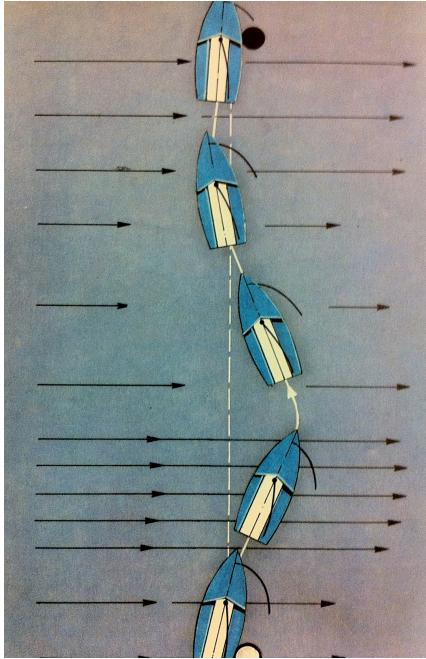
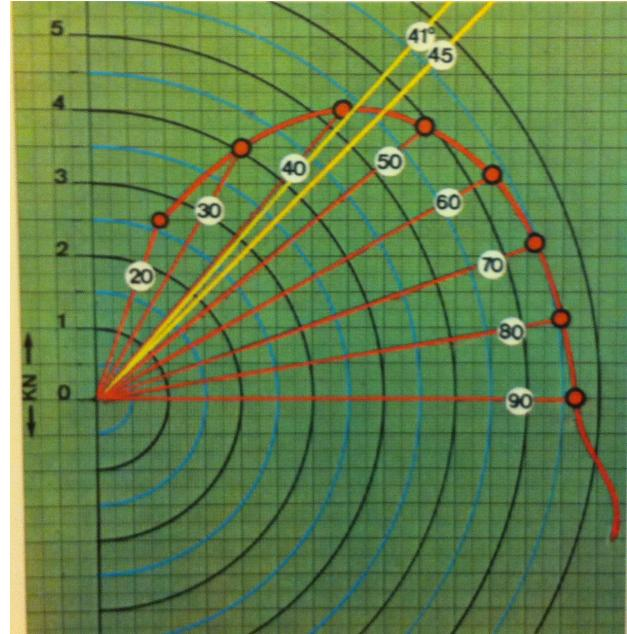

Figure 2
Figure 3
Figure 2 demonstrates how weaving through the gusts and lulls produces the fastest reaching course. The general rule is to bear away from the gusts (turn away from the wind) and to luff in the lulls (overturn into the wind) rather than to stay a straight course on the dotted line. This wind behavior forms a wind contour that can be represented as a wind vector field (Bavier, 1945). **Figure 3** plots boat angle and boat speed on a graph. The wind direction is parallel to the y-axis, and the straight red lines represent the boat's heading. The alternating blue and black semi-circles demonstrate speed. The optimum speed threshold is a heading between 41° and 45° to the true wind (Imhoff & Prange, 1975).
It is important to note, however, that the underlying principles of weaving through gusts and lulls in a broach reach (Figure 2) can be applied to feathering strategies and Ease-Hike-Trim strategies at other points of sail. All incorporate an oscillating technique.
- *windfunc.m* – allows the user to choose between equations drawing the wind vector field. Equation 1 works best, equations 3&4 have been commented out. I could not figure out what equation could render gusts and lulls seen in Figure 2.